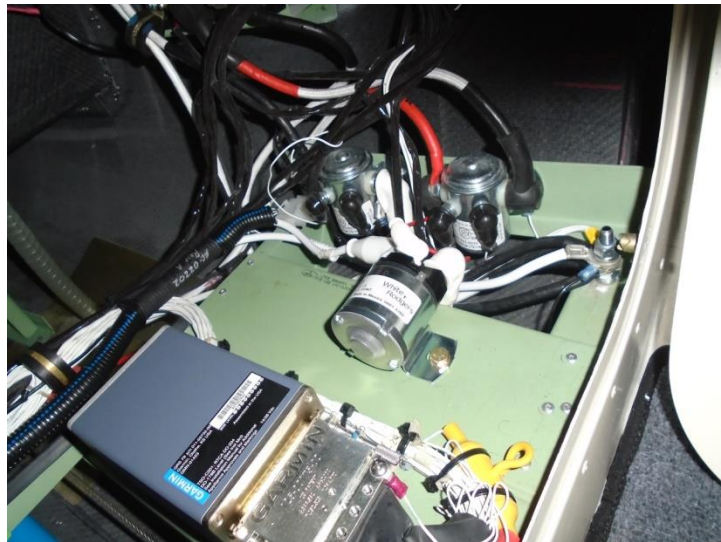

Figure 49 – A/C Ground Power Relay
- E. Locate the 124-903 A/C Ground Power Relay approximately as shown on the radio shelf just aft of the cargo area. Connect the relay to the shelf with (2) AN4-5A Bolts, (4) AN960-416L Flat Washers and (2) AN365-1032A Nuts. See Figure 49 below.